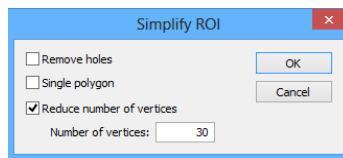

Figure 248 – Simplify ROI dialog
2. Click the **Simplify...** button. The **Simplify ROI** dialog is then displayed (see Figure 248).